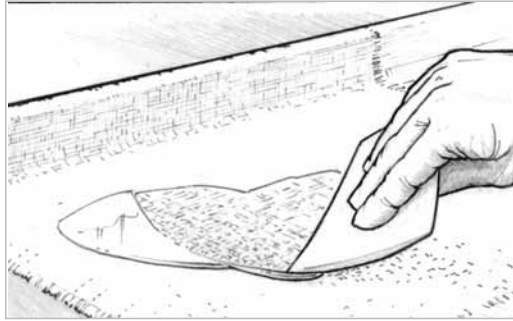

Figure 9-17 Spread the epoxy from the center of the fabric toward the edges with a plastic spreader.
5. Spread the epoxy over the cloth surface with a plastic spreader, working the epoxy gently from the pool into the dry areas (*Figure 9-17*). Use a foam roller or brush to wet out fabric on vertical surfaces. Properly wet out fabric is transparent. White areas indicate dry fabric. If you are applying the cloth over a porous surface, be sure to leave enough epoxy to be absorbed by both the cloth and the surface below it. Try to limit the amount of squeegeeing you do. The more you